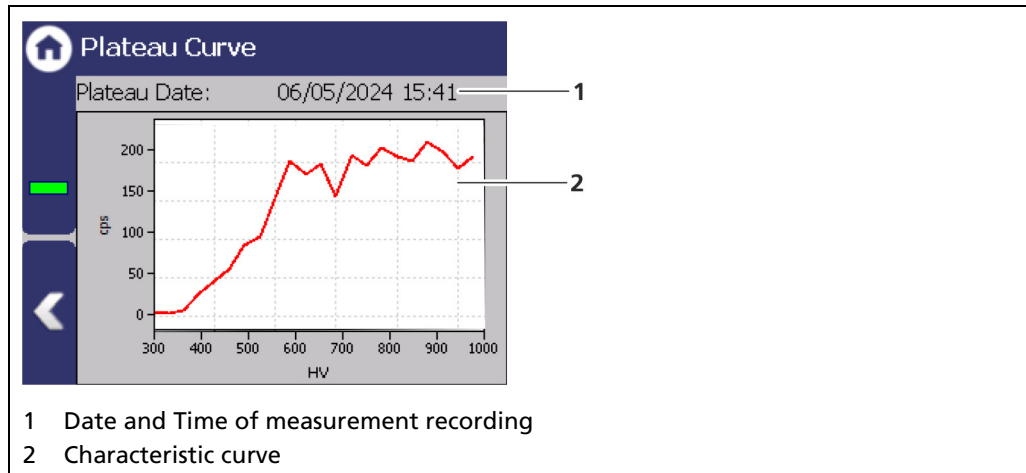
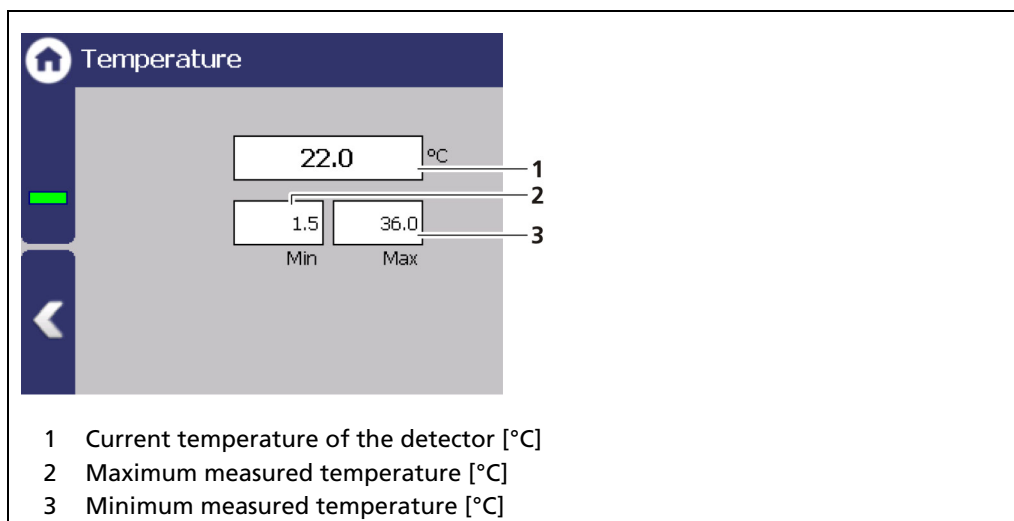

Fig. 51 Plateau Curve
Fig. 52 Temperature of the detector
- ▶ The recorded values are read and entered into the table (Fig. 51), the plateau curve (Fig. 52) is drawn and stored automatically.
2. Click on the button <Export Plateau Data> (Fig. 51, item 4).
The mapped characteristic curve (Fig. 52, item 2) of the last complete plateau measurement is displayed in the window "Plateau Curve".